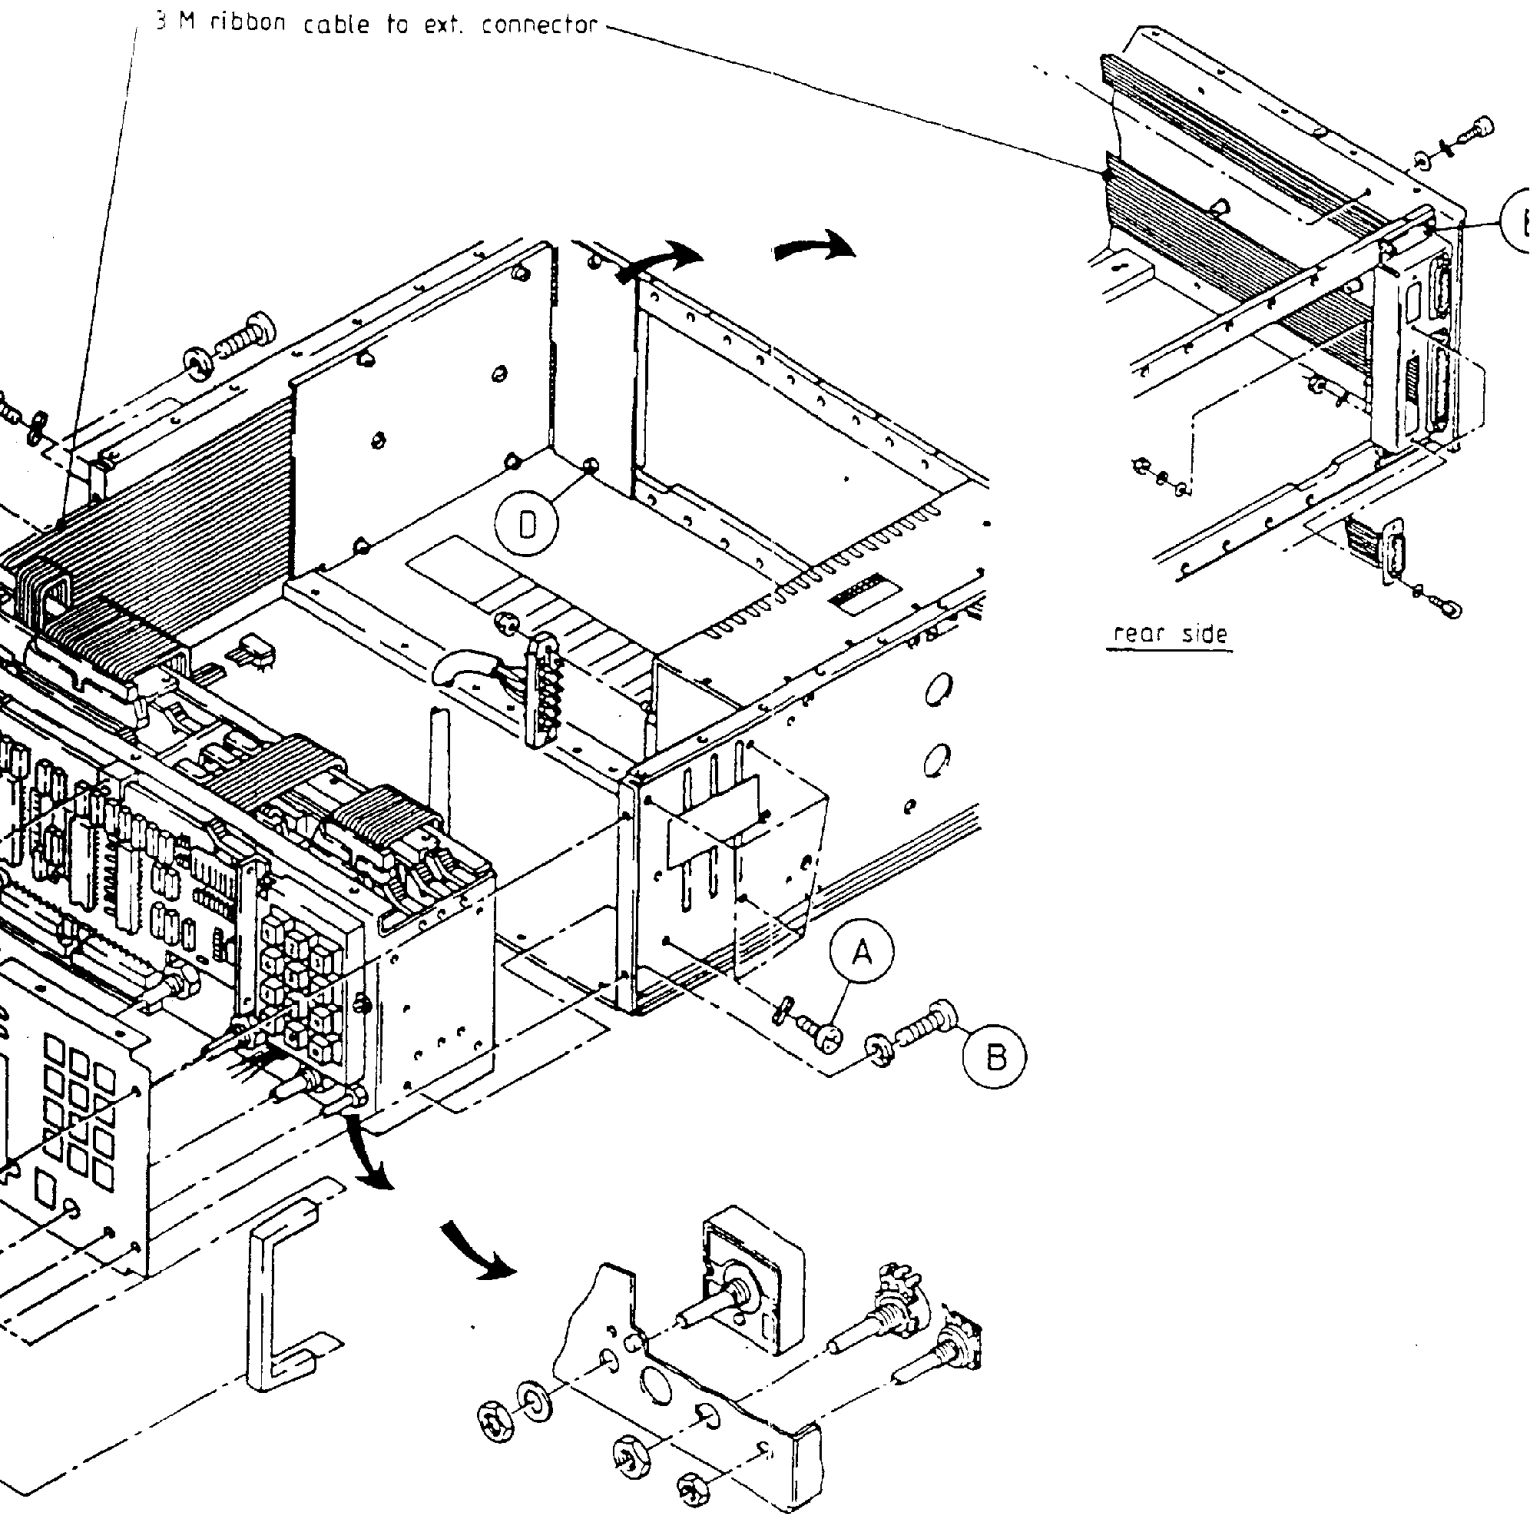

Fig. 3-22
- remove the knobs for AF, RF, BFO and DIMMER, see fig. 3-22.
- unscrew and remove screw (C) in the middle of the front panel.
- the front panel, the handles and the frame are bolted together by screws (B), 4 pieces.
- unscrew mounting screws (D) of the cover plate and the screws (E) of the shroud for the rear plugs.
- unscrew the mounting screws (B) 6 pieces of the frame. Now remove the complete Control Part